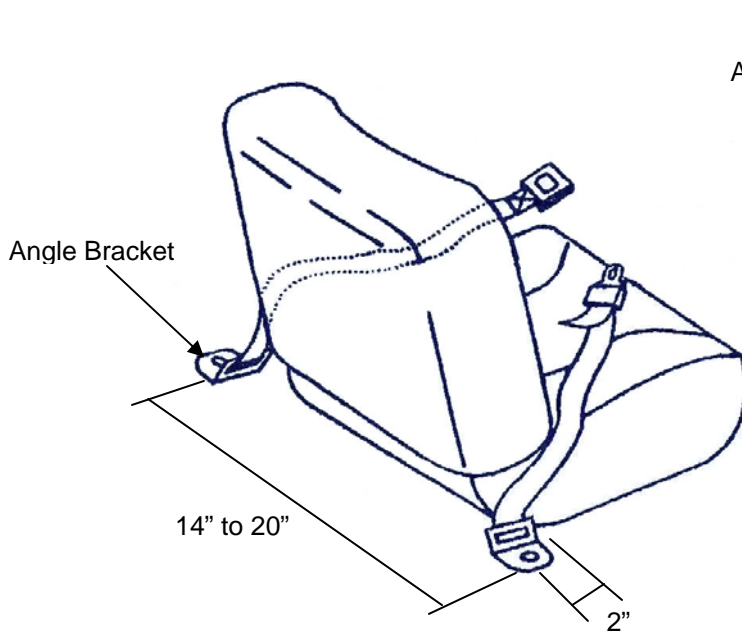
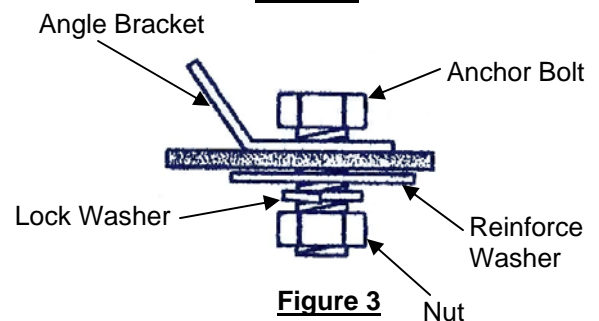

Figure 2
Figure 3
- If the vehicle is not equipped with any holes, slide the seat back as far as possible, position the holes about 2" rearward of the back edge of the seat and about 14" to 20" apart (see Figure 2). Drill holes through the floor pan; attach the angle brackets to the floor as shown in Figure 3. Be sure to mount the reinforce washer and lock washer on the underside of the floor, tighten the mounting bolt and nut while aligning the angle bracket to it's desired direction.